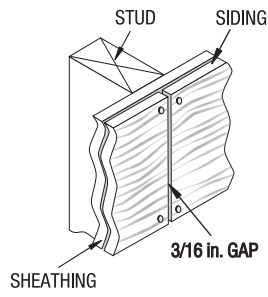

Figure 2
- All lap products require that the butt joints be located on the studs and nailed at the joints (see Fig. 2).
- Leave 3/16 in. gap around all doors, window frames and corners. Seal all gaps (see Fig. 2 & 3).
- Leave 3/16 in. gap at all butt joints (see Fig. 2).